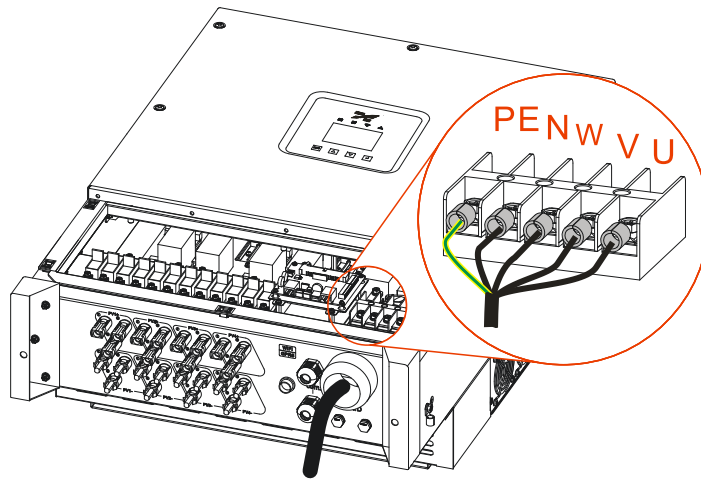

Figure3-22 Wiring diagram for AC wire
- Step 3 Loosen the nylon cable gland in the " GRID " and draw the AC wires through it. Connect the wires to round terminals respectively, insert the wires into the corresponding wiring terminals respectively and tighten the screws on the wiring terminals by Phillips screwdriver(or socket wrench), as shown in Figure3-22.